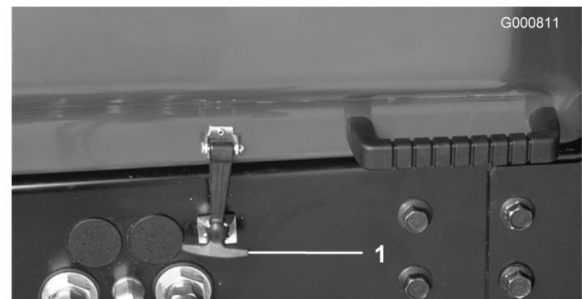

Figure 29
1. Park machine on a level surface. Release hood latch and open hood (Figure 29).